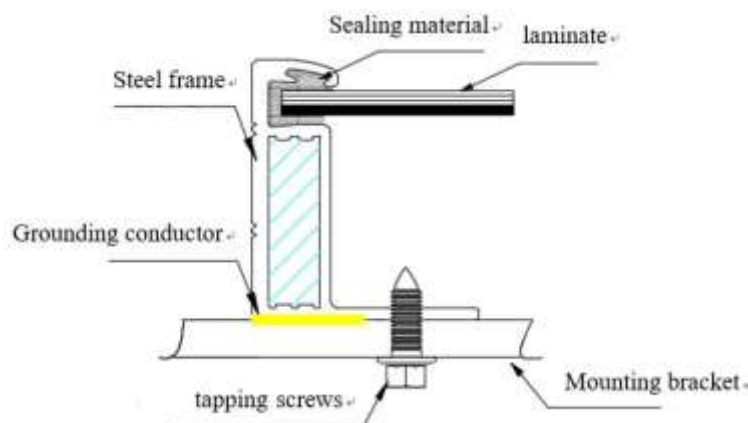

Fig.11.2 ST 4.8 pan head tapping screw grounding
- On a grounding hole with a diameter of  $\phi 4$  mm, use a separate grounding wire and related accessories to connect the frame and connect the grounding wire to the ground. M4 x 12mm ground bolts with M4 nuts, star washers and plain washers are recommended for the aluminum frame, M5 pan head screws or ST 4.8 pan head tapping screws are recommended for high-strength alloy steel frames, see fig.11.2, this ensures that the modules are firmly grounded. You can find the corresponding product drawing in module datasheet to know the detailed number, size and position of the grounding holes. The torque applied to ground fixation is 4N·m~8N·m.